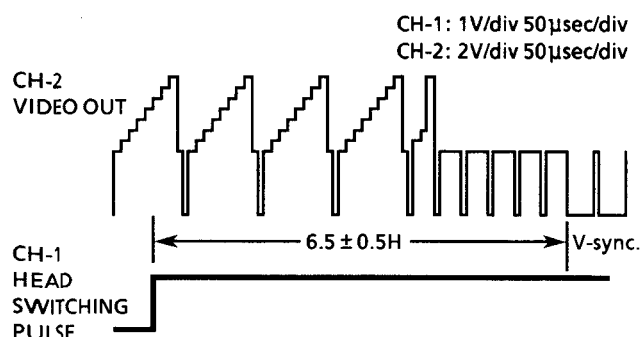

Figure 2-2.
5. Adjust R701 so that the leading edge of the head switching pulse is  $6.5H$  (lines) ahead of the vertical sync. as shown in Figure 2-2.